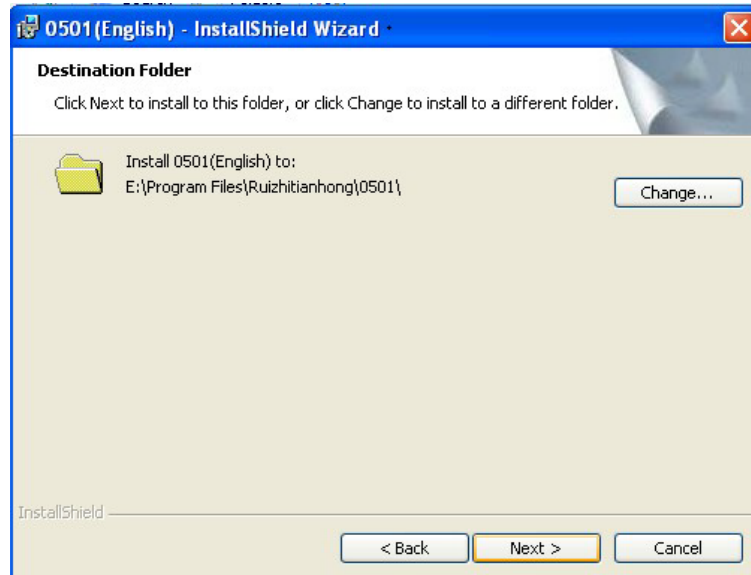

Figure 2-1-3
(3): Into the installation directory selection, click “Change” to change the installation directory (Figure 2-1-3);